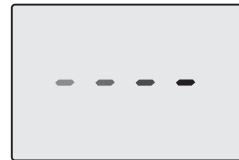
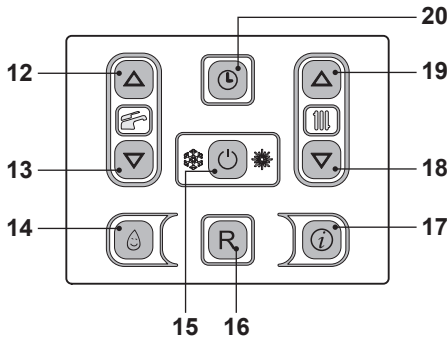

Fig. 7.10
Fig. 7.11
- Electrically power the boiler by switching on the double pole isolation switch. The LCD will display, the - - - - symbol (Fig. 7.10).
- Press the 15 key for 2 seconds until both  and  symbols appear on the display Fig. 7.11.
- Switch off the boiler by pressing the 15 (Fig. 7.11) key for 2 seconds until the symbol appears on the LCD display (Fig. 7.10).
- Press the 16 key for 2 seconds until both and , symbols appear on the display Fig. 7.11.
Press the reset key on the boiler control panel 16 (Fig. 7.11) to reset its functioning.